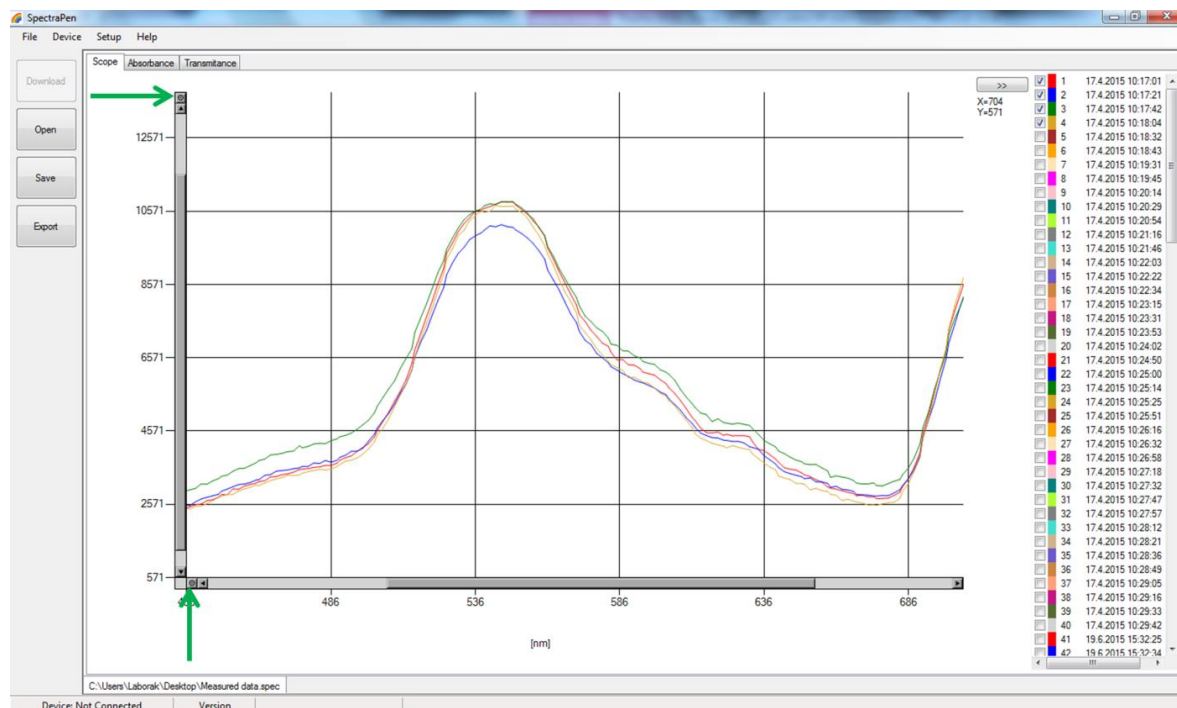

Fig. 23 Zoom feature
8. “Draw” rectangle by left mouse click around the area you would like to zoom in (Fig. 23). If you want to reverse these steps and return to original display, use minus icon in the corners of the zoom area as depicted by green arrows in Fig. 23.